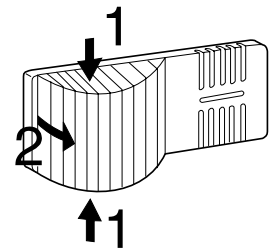

Figure 31
2. Press the light cover together at the sides (**Fig. 31, 1**). Lift it out and unclip at back (**Fig. 31, 2**).